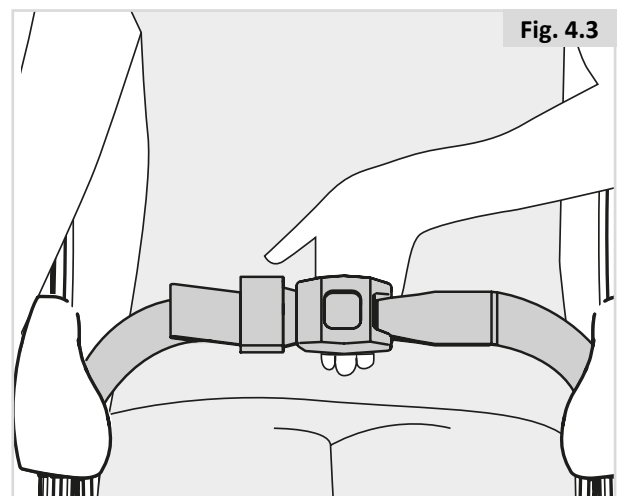

Fig. 4.3
- Adjust the lap strap to suit, leaving no more than a hand's width gap for comfort and safety (Fig 4.3).